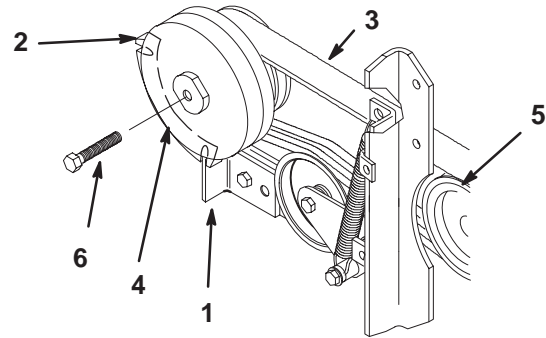

Figure 4
Note: Make sure clutch is connected to holding bar in the 6 and 9 o'clock position (Fig. 4).
3. Install belt onto clutch pulley (Fig. 4).